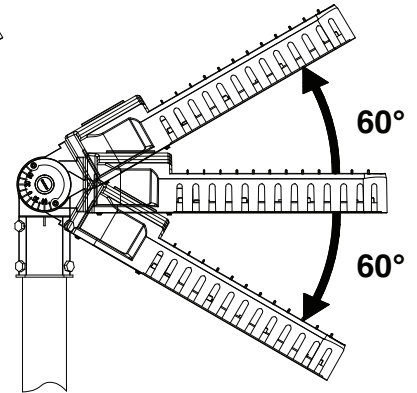

FIG. 10
- To aim the fixture, loosen and adjust the M12 knuckle bolt to right angle, adjust the aim 0 to 60° both upward and downward (see **FIG.10**).